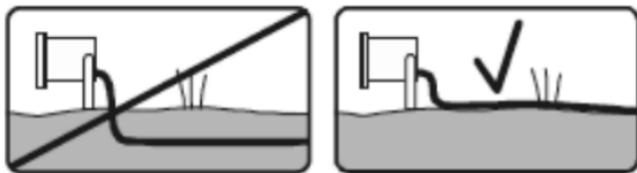

Fig. 2
- The pre-installed cable supplied is for above-ground use only. Cables that are to be routed within walls must be protected by means of suitable conduit or trunking (see Fig. 2)